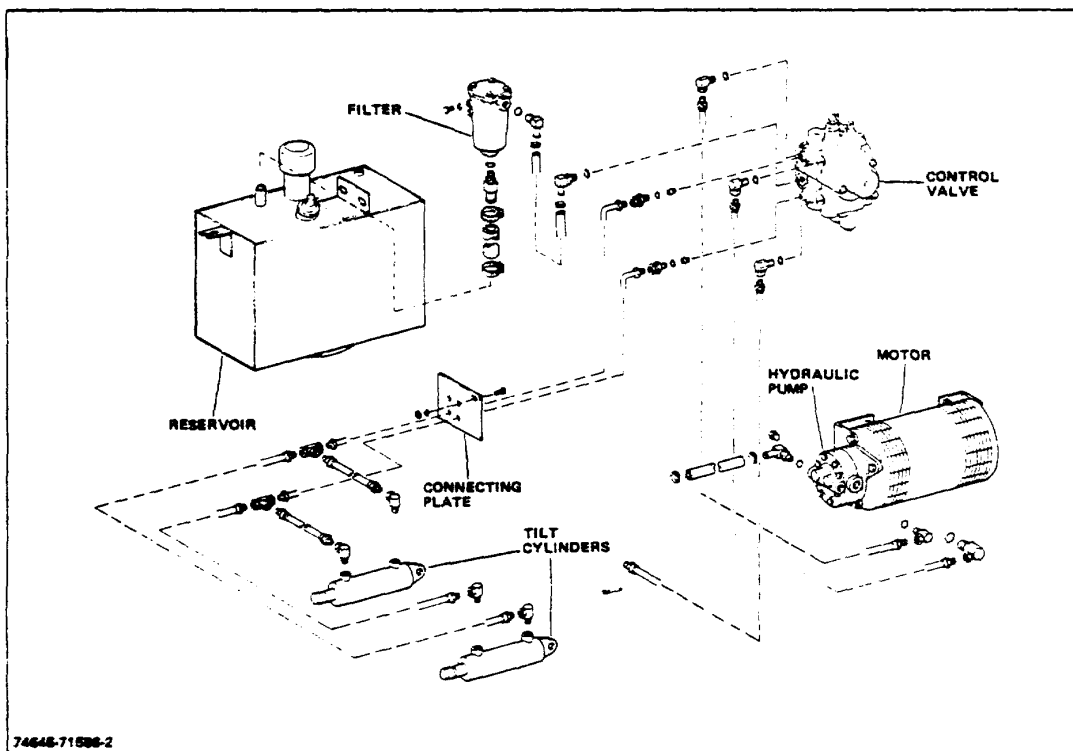

Figure 1-1. Hydraulic System (Typical)
The hydraulic system (Fig 1-1) provides the means by which the lift, tilt, and accessory operations are controlled. Included in the system is a motor driven, gear type pump that supplies hydraulic oil to the control valve. From the control valve, the flow of hydraulic oil under pressure is directed to the appropriate cylinders. Contamination is removed from the hydraulic oil by a filter located in the return line to the reservoir. The reservoir provides an adequate supply of hydraulic oil to the pump plus an ample reserve. Suction ports at the bottom of the reservoir gravity-feed oil to the hydraulic pump and, on models with power steering, to the power steering pump.
3. Before a component is removed from the Figure 1-1. Hydraulic System (Typical) 2-103